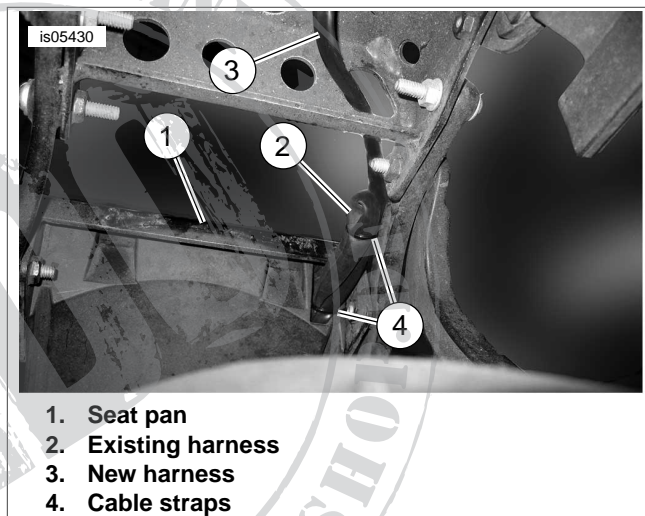

Figure 5. Securing Wire Harness
12. See Figure 5. Use cable ties to secure the wiring harnesses to the motorcycle.